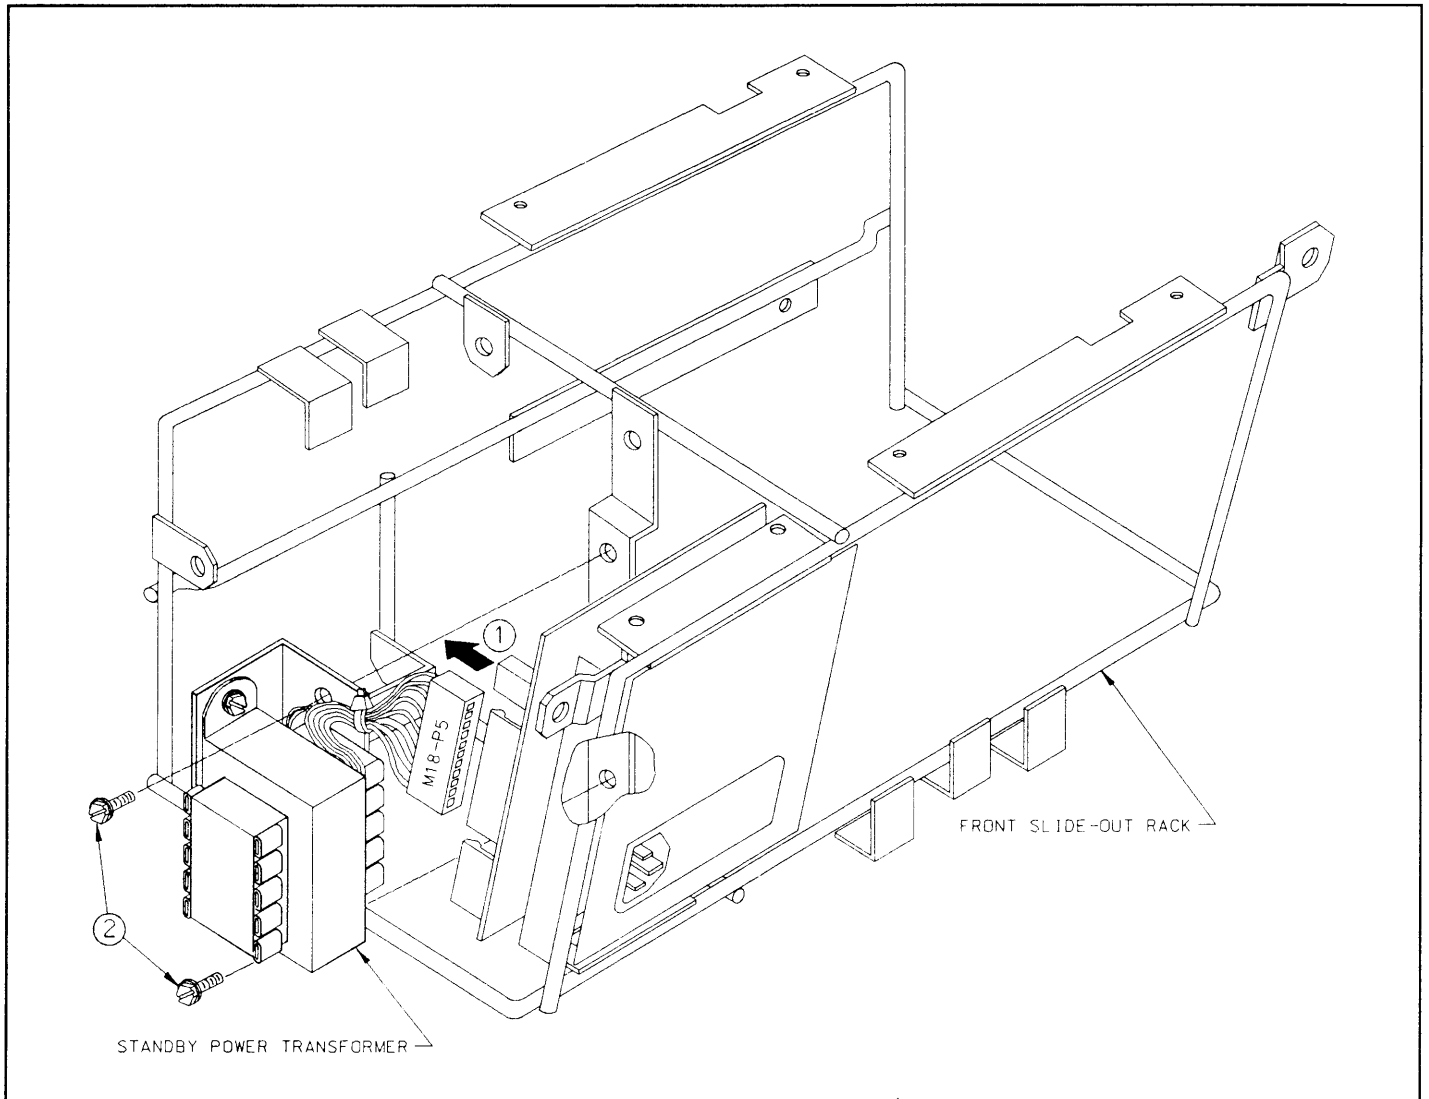

FIGURE 5-12. Standby Power Transformer Removal
- b) Unplug connector M18-P5 from the Power Entry module as shown in Figure 5-12 below.
c) Unscrew the two hex head screws which secure the power transformer bracket to the front slide-out rack (item 2 in diagram). Feed the transformer assembly out through the bottom of the rack.